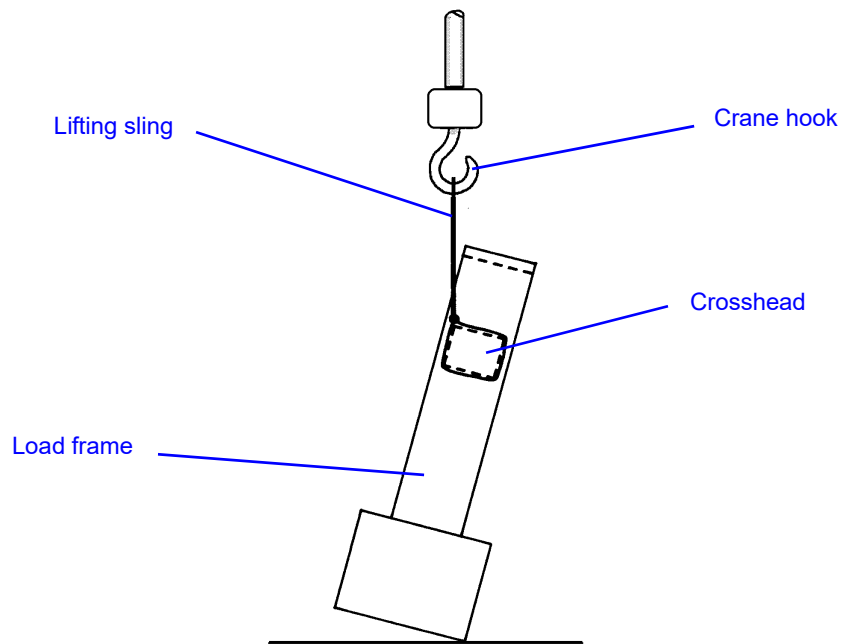

Figure 3-3. Lifting Load Frame with a Crane
1. Attach the two lifting slings to the crosshead and secure them to the crane hook as shown in Figure 3-3 on page 3-9. If you use chains in lieu of lifting slings, wrap protective material around the crosshead to protect the crosshead from scratching and marring.